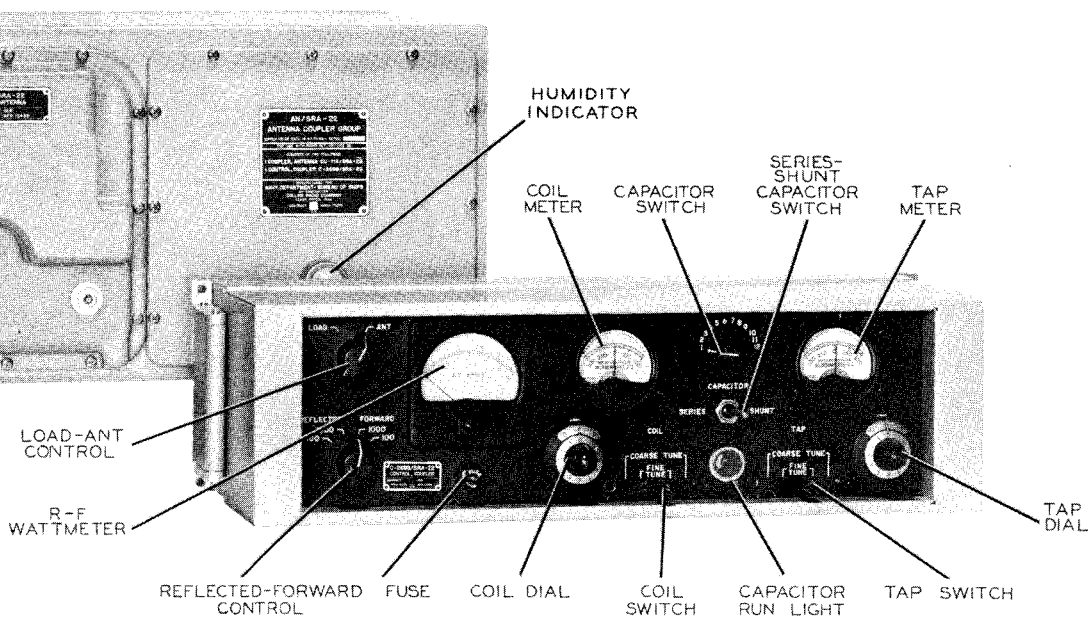

Figure 3-1. Antenna Coupler Group AN/SRA-22, Front Panel Control Location
a. DESCRIPTION OF CONTROLS. - Coupler Control C-2698/SRA-22 contains all controls and indicators for complete operation of Antenna Coupler CU-714/SRA-22. Table 3-1 describes the operating controls and indicators; figure 3-1 identifies them.
b. EMERGENCY MAINTENANCE. - The only emergency maintenance that can be performed is the replacement of the fuse in Coupler Control C-2698/SRA-22. Refer to figure 3-1 for fuse location. This fuse is in one side of the 115-volt a-c line which supplies power to the antenna coupler system. Table 3-3 contain symptoms indicating probable fuse failures.